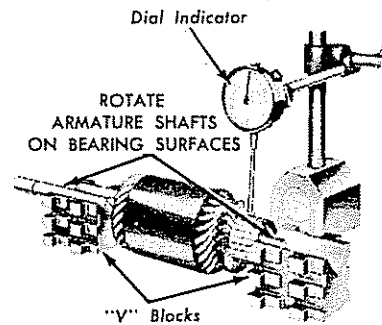

Fig. 17 — Checking Commutator Runout
4. Check the commutator for runout (Figure 17). Inspect the armature shaft and the two bearings for scoring and excessive wear. On a starter with needle bearings apply a small amount of grease to the needles. If the commutator is rough, or more than 0.005 inch out-of-round, turn it down.